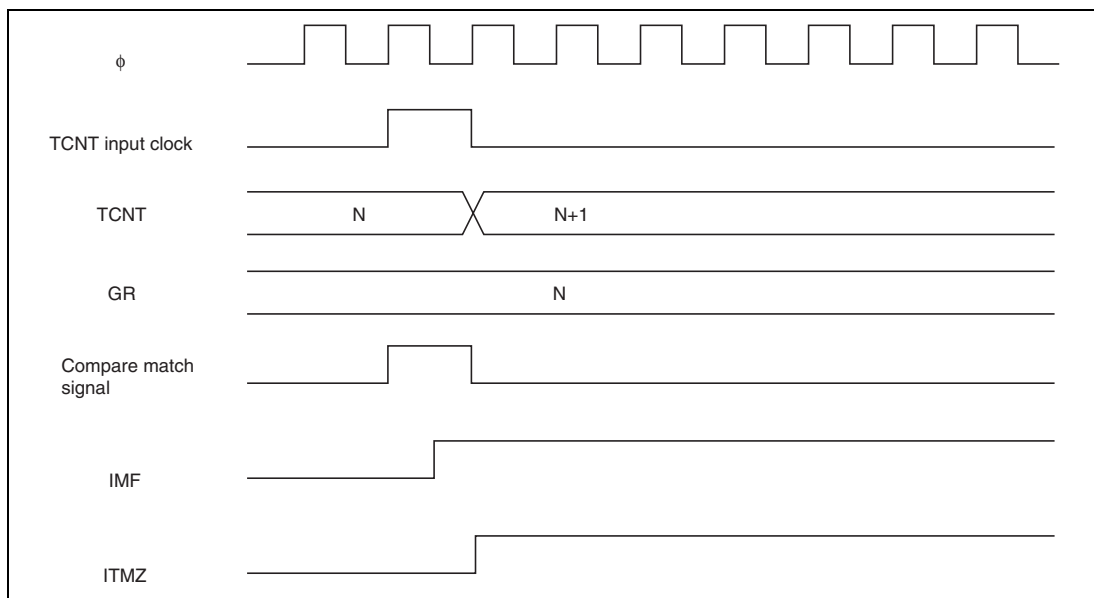

Figure 13.48 IMF Flag Set Timing when Compare Match Occurs
1. **IMF Flag Set Timing:** The IMF flag is set to 1 by the compare match signal that is generated when the GR matches with the TCNT. The compare match signal is generated at the last state of matching (timing to update the counter value when the GR and TCNT match). Therefore, when the TCNT and GR matches, the compare match signal will not be generated until the TCNT input clock is generated. Figure 13.48 shows the timing to set the IMF flag.